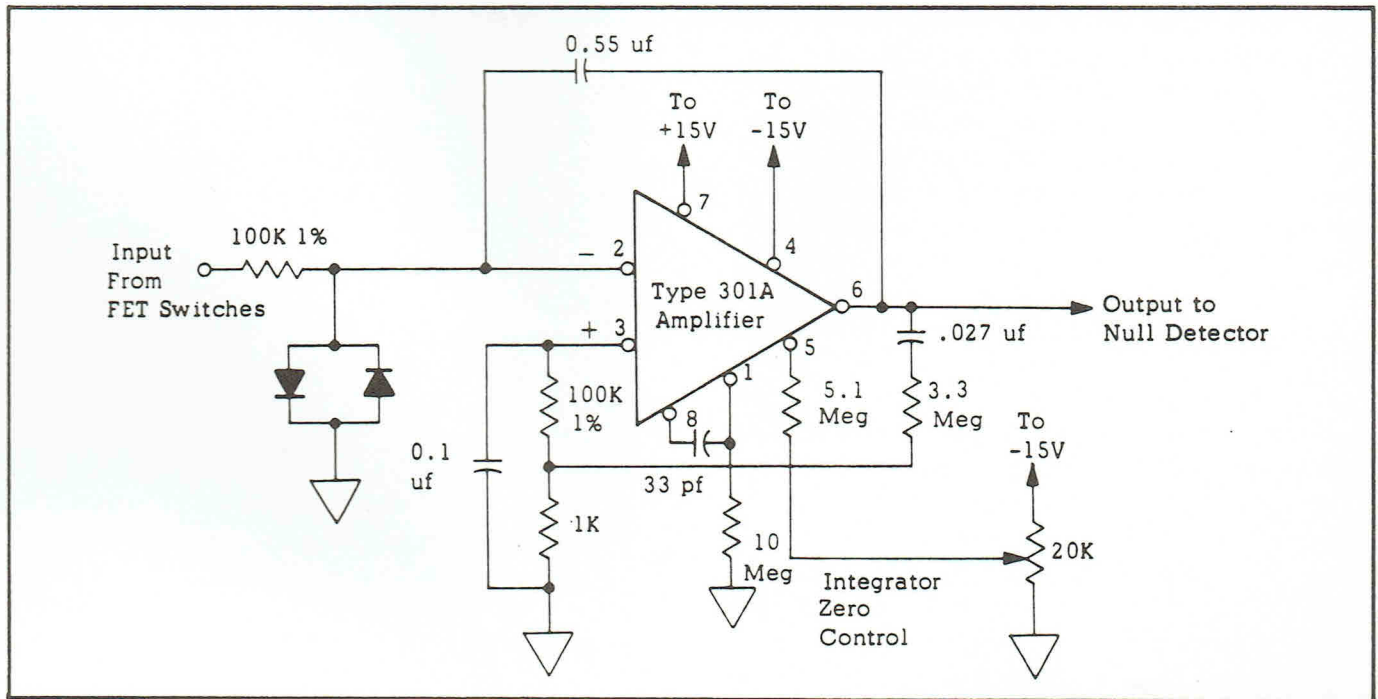

Figure 4.2 - Schematic, Integrator
4.11 The integrator, shown in figure 4.2, is the center of the analog-to-digital conversion circuitry. It is designed around a high-gain differential amplifier. The circuit is connected as an operational amplifier, having a summing resistor of 200K ohms, and in the feedback element is a 0.55 microfarad capacitor. In operation, the circuit functions as outlined below.